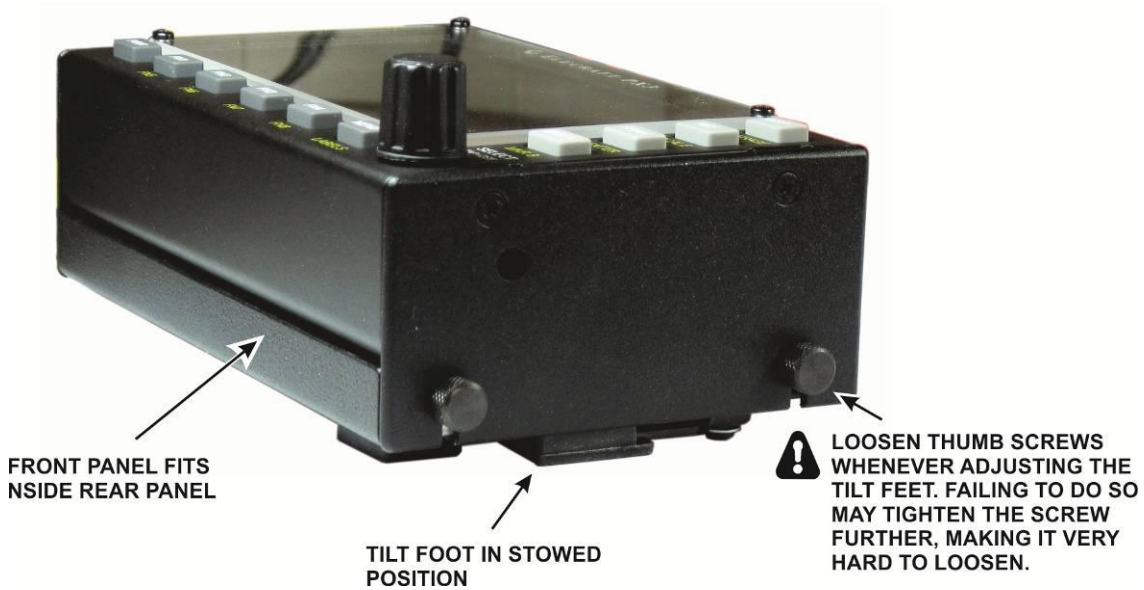

Figure 47. Assembling the Enclosure.
□ Assemble the front panel assembly and rear cover as shown in Figure 47 and tighten the thumb screws only until snug. To use the tilt feet, loosen the two rear thumb screws and swing the feet down, then retighten the thumb screws.